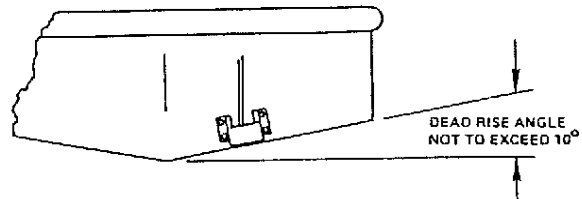

Figure 2-7. Mounting Flush to Transom Bottom
- a. If the dead rise angle is 10° or less and the transducer is to be mounted flush to transom bottom, locate the transducer as illustrated in Figure 2-7.